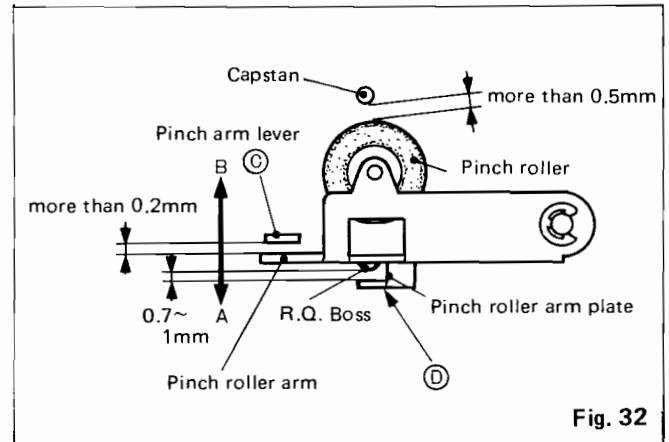

Fig. 32
1. Adjust the pinch arm lever bent portion ③ in Fig. 32 so that the distance between the pinch roller and the capstan are 0.5mm or more when depressing the PAUSE button.
2. Should the reel disc in the winding side stop rotating sooner than that on the feeding side while depressing the PAUSE button, thus allowing the tape to exit between the heads, bend pinch arm lever portion ④ in direction A.
1. Should the tape exit between the heads when starting to cue or review, bend pinch arm lever portion ③ in Fig. 32 in the A direction.
2. Should abnormal fast-forwarding be detected when starting to cue or review, bend pinch arm lever portion ③ in Fig. 32 in the B direction.
3. After completing adjustment, depress the REWIND button while recording (namely, with both the RECORD and PLAY buttons depressed) and confirm that a distance exceeding 0.2mm exists between the pinch arm lever and the pinch roller arm. Adjust bending of portion ④ in Fig. 32 so that the distance between the RQ boss and the pinch roller arm plate is 0.7 to 1.0mm when depressing the PLAY button.